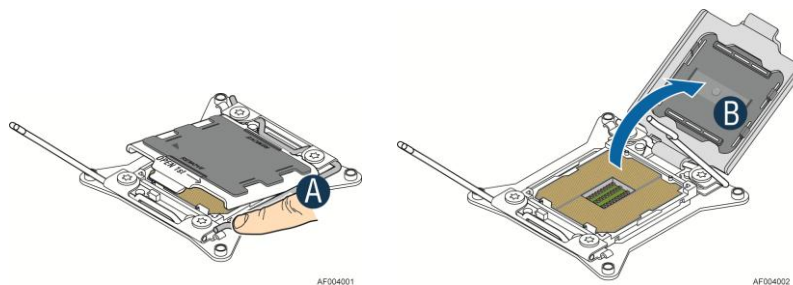

Figure 32. Installing Processor – Open the Load Plate
3. Open the load plate, see Figure 32.